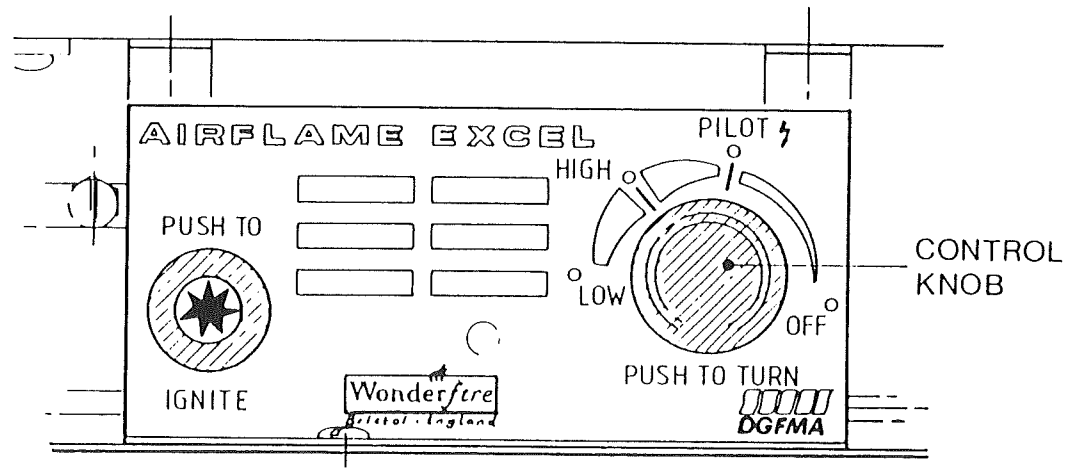

Figure 12
1. This fire is controlled by a four position gas tap mounted on the front of the appliance (see Fig 12). In addition to the OFF position there is a pilot light and 2 heat control settings.